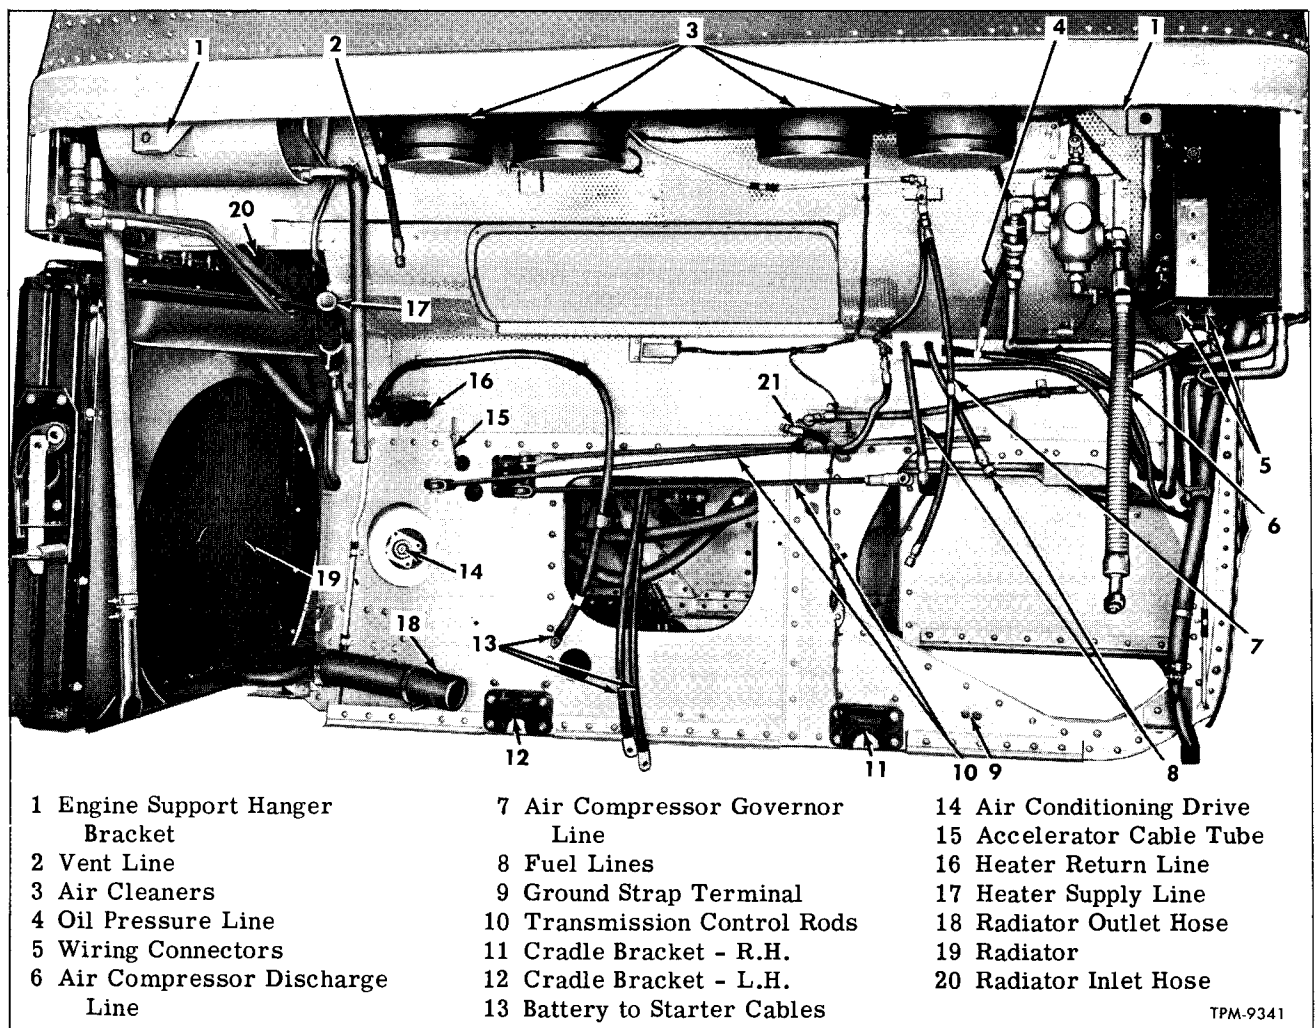

Figure 12—Engine Compartment Disconnect Points—8 Cylinder
18. Disconnect oil pressure manifold to engine oil line (4) at engine.
19. Remove right brace member from bracket (8) and from cradle rear member.
20. On mechanical transmission and clutch equipped coaches, disconnect transmission and clutch control rods (10, fig. 12) as directed in respective sections of this manual.